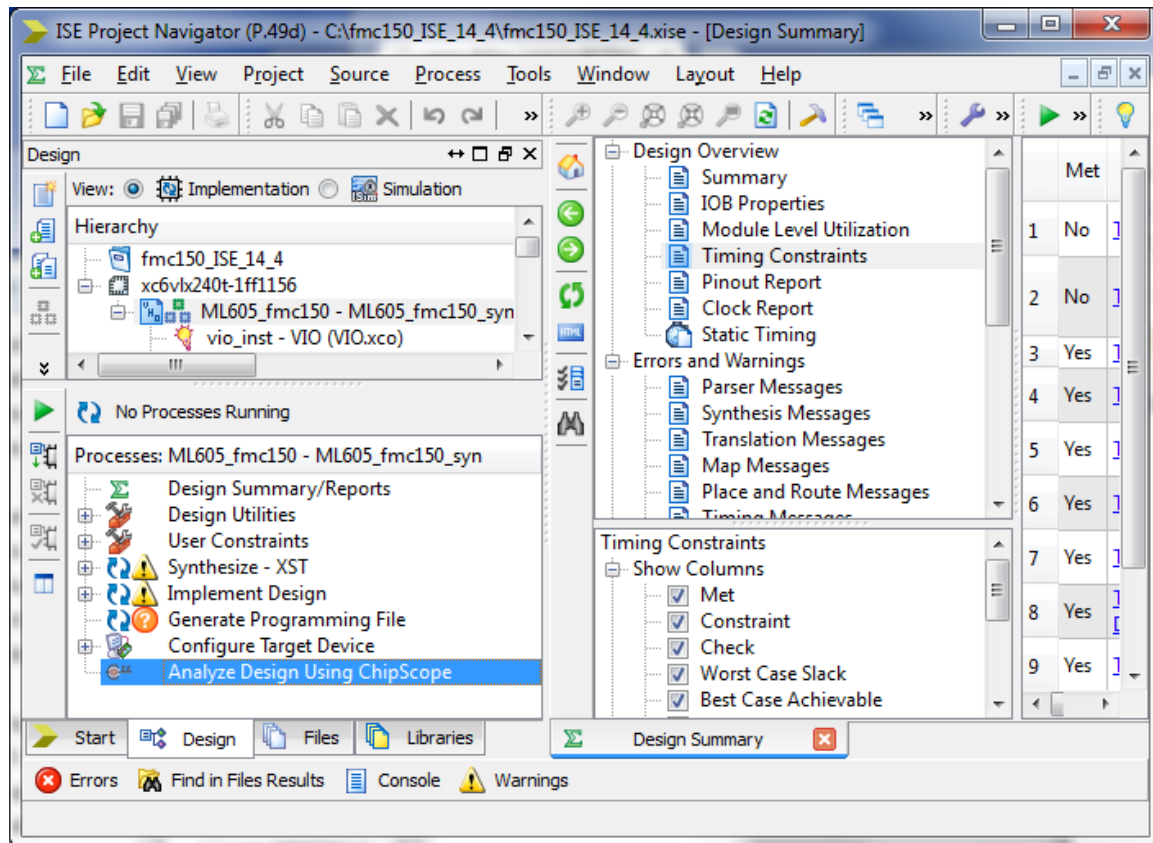

Figure 8 – Select the top module from the Design pane and double click *Generate Programming File* to generate a bit file and synthesize the design.
4. Select the top file *ML605_fmc150* and in the process window (directly below the *Design Hierarchy*), double click *Generate Programming File* (As shown in Figure 8). This will synthesize the design producing a bit file. This step takes approximately three minutes to complete.